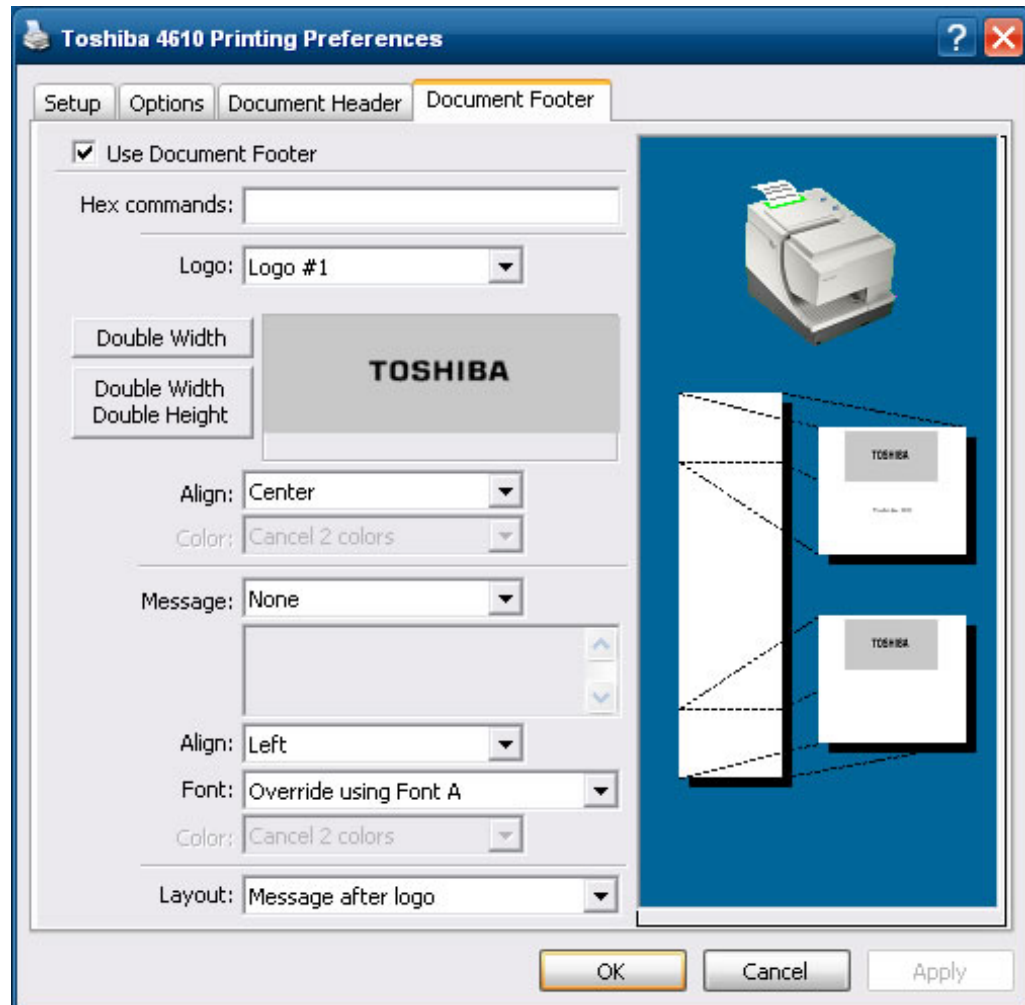

Figure 49. Selecting a footer logo
6. To specify a logo (see Figure 49):